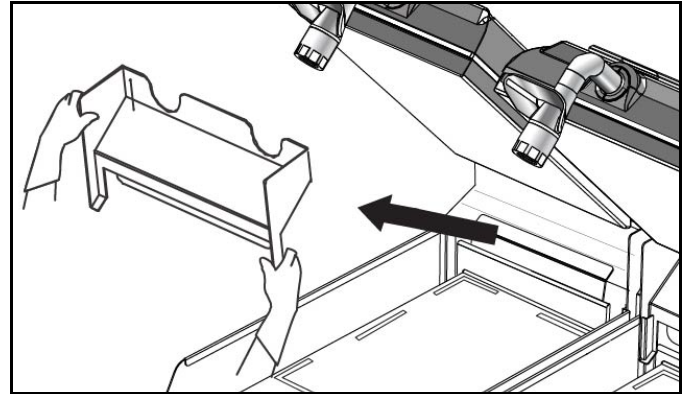

Figure 6-5
4. Remove rear splash guard and set it aside to be taken to the sink later to be washed, rinsed, and sanitized. See Figure 6-5